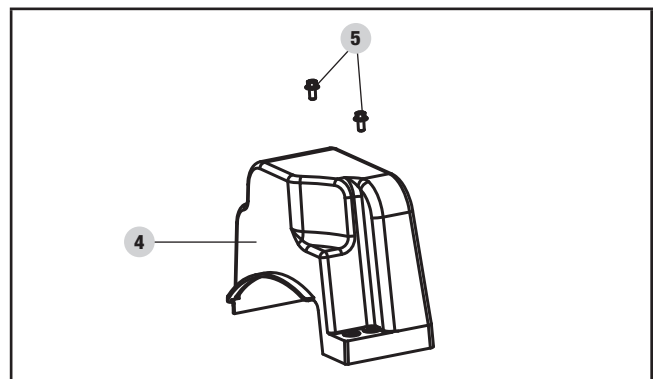

Figure 26
10. Install the plastic belt cover (4) on the front of the engine using two M6 \times 16 bolts (5) set aside from an earlier step. Tighten until snug. Do not over-tighten or you risk damaging the plastic belt cover (Fig. 26).